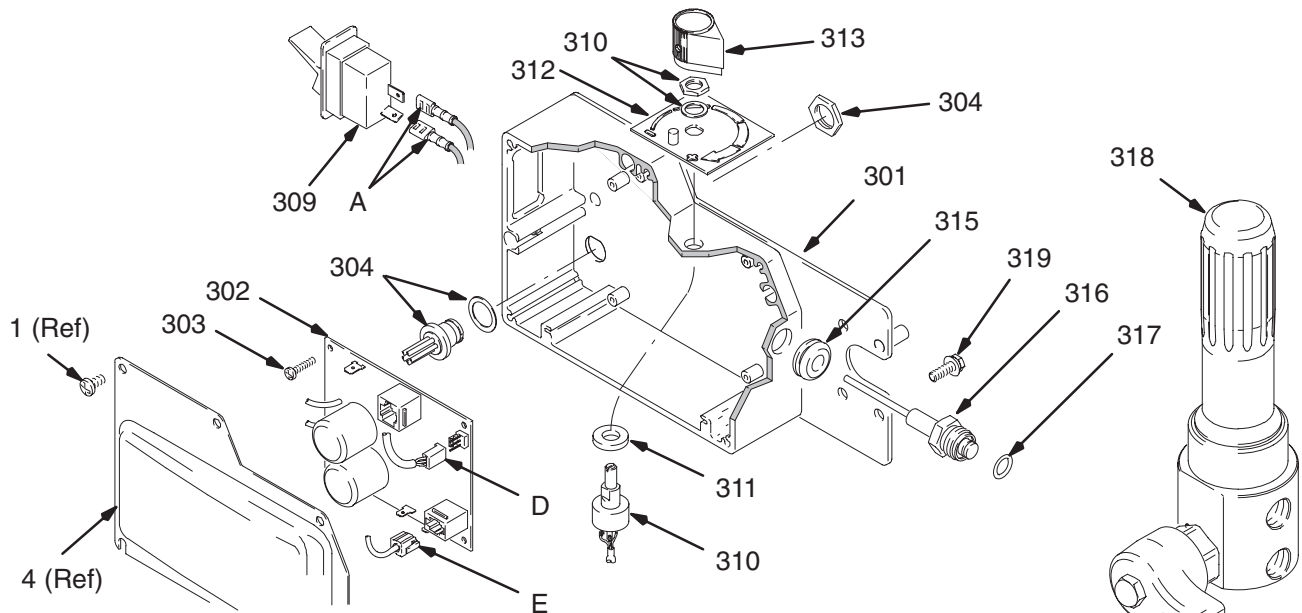

Fig. 15
2. Fig. 15. Remove five screws (307) and cover (322).
3. Disconnect two wires (A) from ON/OFF switch (309).
4. Press in on two retaining tabs on each side of ON/OFF switch (309) and remove switch.
- Fig. 15. Remove five screws (307) and cover (322).
- Disconnect at control board (302):
- Lead (D) from potentiometer.
- Lead (E) from transducer.
- Two red leads (A) to ON/OFF switch (309).
- Remove four screws (303), green ground wire, and control board (302).
- Fig. 15. Install control board (302) with five screws (303).
- Connect control board (302):
- Lead (E) to transducer.
- Lead (D) to potentiometer.
- Install cover (322) with five screws (307).
- Disconnect lead (E) from control board (302).
- Remove three screws (319) and filter housing (318) from control plate (301). Carefully pull transducer connector through rubber grommet (315).
- Remove pressure control transducer (318z) and packing o-ring (318aa) from filter housing (318).
- Fig. 15. Install packing o-ring (317) and pressure control transducer (316) in filter housing (318). Torque to 30–35 ft-lb.
- Carefully feed transducer connector through rubber grommet (315). Install fluid filter (318) on control plate (301) with three screws (319).
- Connect lead (E) to control board (302).
- Disconnect lead (D) from control board (302).
- Loosen set screws on potentiometer knob (313) and remove knob, shaft nut, lockwasher (310) and pressure adjust potentiometer (310).
- Remove seal (311) from potentiometer (310).
- Fig. 15. Install seal (311) on potentiometer (310).
- Install potentiometer (310), shaft nut, lockwasher (310), and potentiometer knob (313).
- Turn potentiometer shaft (310) clockwise to internal stop. Assemble potentiometer knob (313) to strike pin on plate (312) and have bottom of knob clear plate by .040 to .060 in.
- Connect lead (D) to control board (302).
1. Fig. 15. Remove five screws (307) and cover (322).